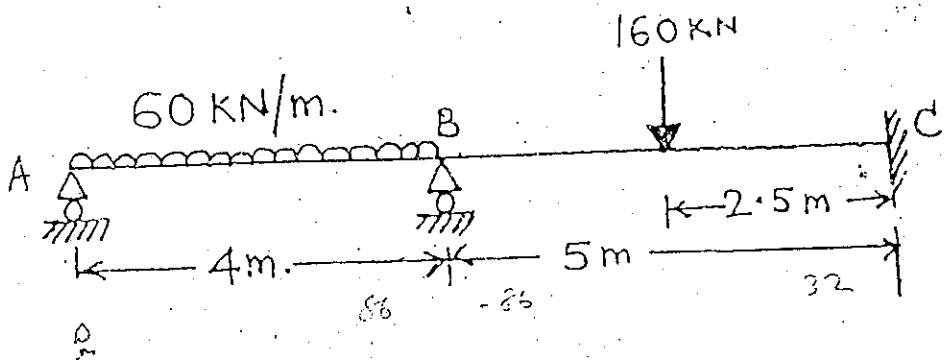

Fig. 4 (Q.No. 17)
17. Analyse continuous beam ABC shown in Fig. 4 STIFFNESS METHOD and plot B.M. diagram. Take EI constant. 20